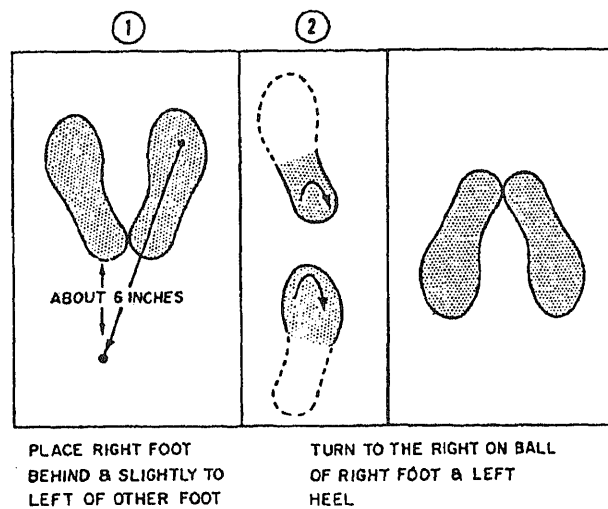

Figure 11-5.—About Face.
**ABOUT FACE:** About face is a two-count movement performed on the commands About, FACE. On the command About, shift your weight to your left leg without noticeable movement. On the command FACE, (1) place your right toe about 6 inches behind and slightly to the left of your left heel (fig. 11-5); (2) on the ball of the right foot and the heel of the left foot, turn smartly to the right until you are facing the rear. Your feet will be in the position of attention when the turn is completed if you place your right toe properly behind your left heel.